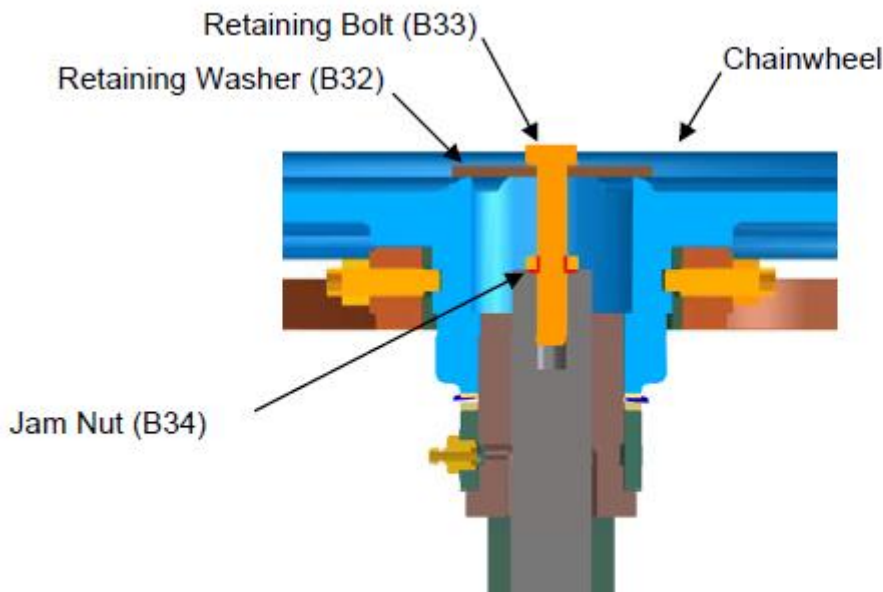

FIGURE 1—Detailed View of Chainwheel Retaining Components on 2-12" Valves
7. As shown in Figure 1, insert the large hex-head retaining bolt (B33) through the 2.5-inch retaining washer (B32) and stake the washer to the head of the bolt. This keeps the washer from sliding down the shaft of the bolt when the valve is open (when the stem is extended upward).